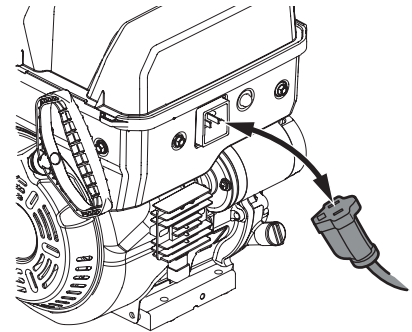

Figure 3-3
**NOTE:** When connecting power cord always connect power cord to switch box on engine first; then into outlet. See Figure 3-3.